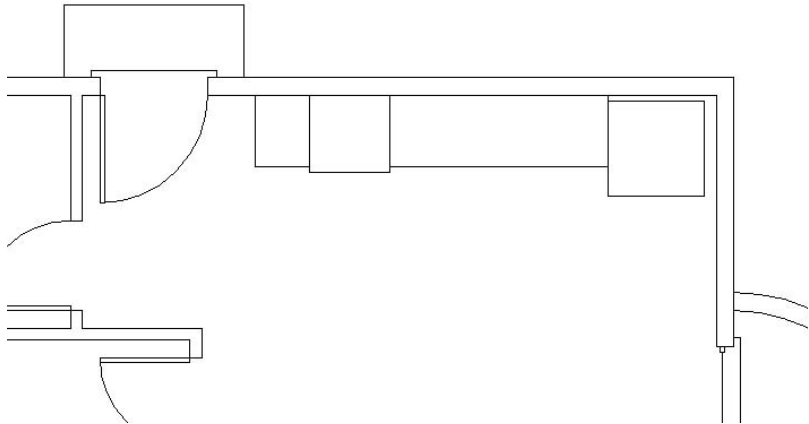

FIGURE 5.17: The stove and refrigerator made with rectangles
3. Use the Trim command to trim away the front edge of the counter at the stove (see Figure 5.17).
3. Use the Trim command to trim away the front edge of the counter at the stove (see Figure 5.17, shown earlier).